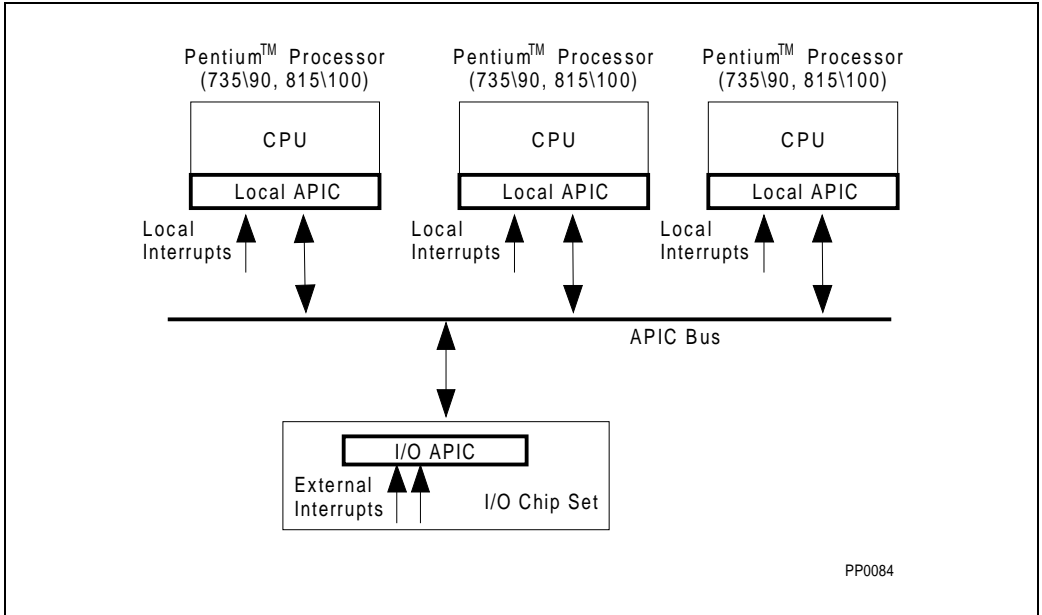

Figure 19-1. Local APIC Within a Pentium Processor (735\90, 815\100, 1000\120, 1110\133)-Based MP System
For multiprocessor (MP) systems, the APIC architecture would generally have a decentralized implementation, consisting of two main components: a *Local APIC* and an *I/O APIC*. See Figure 19-1. The I/O APIC is part of the system chipset. It is responsible for capturing interrupts injected by I/O devices, and distributing them among Local APICs via the APIC Bus. The Local APICs control dispatching of interrupts to their corresponding processors.